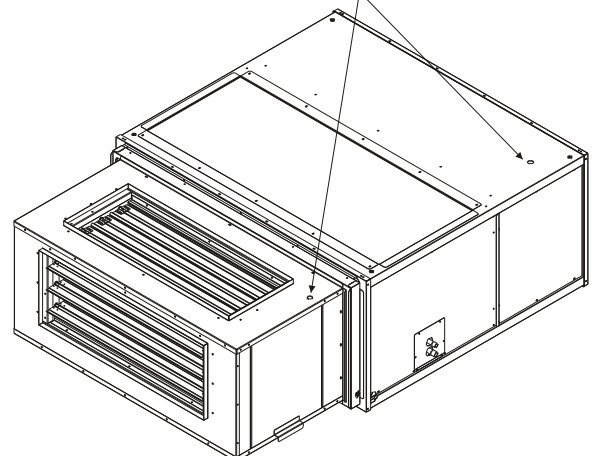
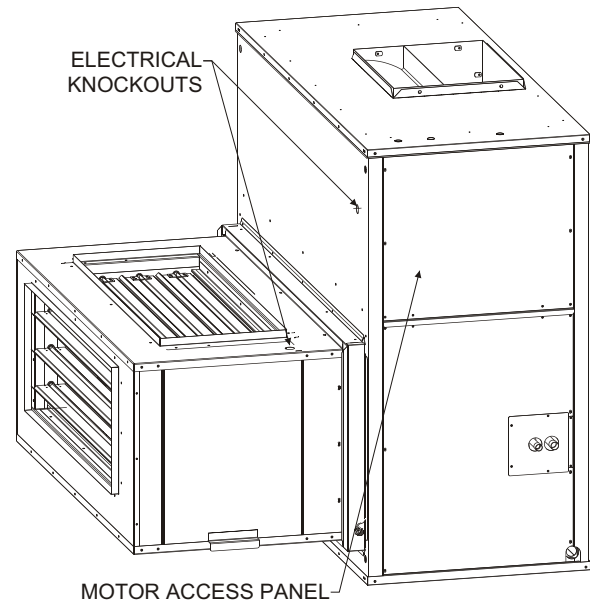

Figure 1 - (B4,B5)SM Horizontal Application
Figure 2 - (B4,B5)SM Vertical Application\*
2. Install and secure the economizer as shown with the air handler in the Horizontal position (**Figure 1**) or in the Vertical position (**Figure 2**) using screws (12) provided in the kit.